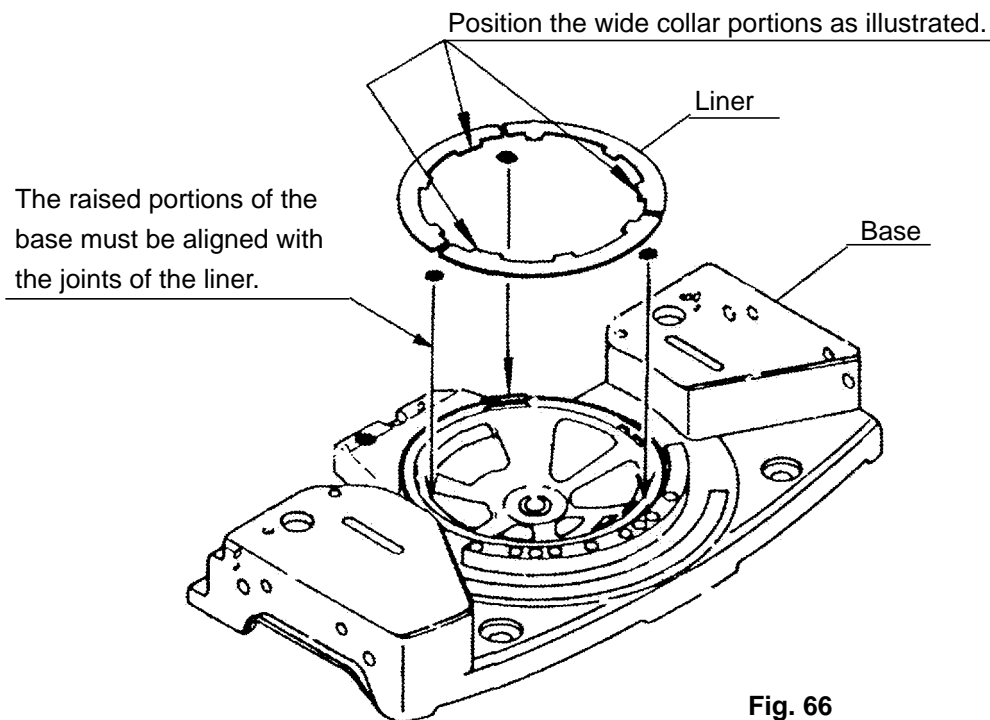

Fig. 66
- (1) Prior to reassembly, measure the insulation resistance of the armature, stator, switch and other electrical components and confirm that the insulation resistance of each part is more than 5 M Ω .
- (2) When replacing the Spring [77], apply 3 grams of Hitachi Motor Grease to the inner circumference of the new spring prior to assembly.
- (3) When replacing or reassembling the Liner [34], ensure it is positioned and assembled as illustrated in Fig. 66. In addition, coat 8 grams of Hitachi Motor Grease on the liner sliding portion of the Turn Table Ass'y [26].